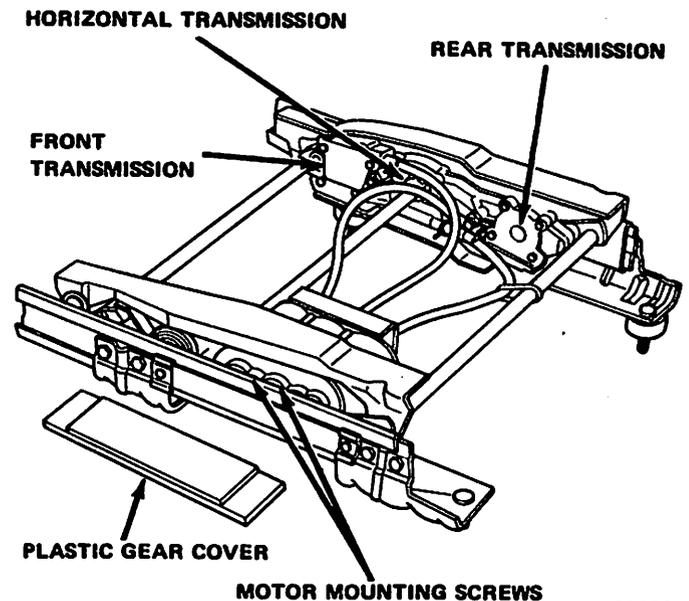

Fig. 3M-11 Seat Track Assembly
- (1) Remove seat assembly from vehicle following procedure outlined above.
- (2) Lay seat assembly on its back on clean surface.
- (3) Remove motor mounting screws (fig. 3M-11).
- (4) Carefully disconnect housings and cables from motor assembly.